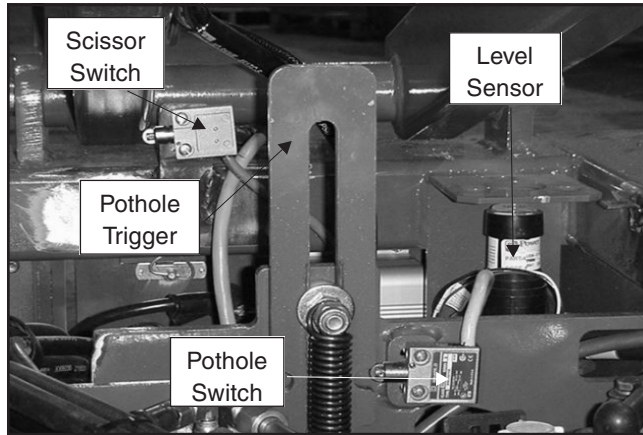

Figure 8.3—Switches and Sensor
3. Check voltage on wire 102 to scissor switch (figure 8.3). Is it 24 volts? If yes, go to 4. If no, inspect and/or replace wire.
3. Check voltage on wire 102 to pothole switch (figure 8.3). Is it 24 volts? If yes, go to 4. If no, inspect and/or replace wire.
4. Check voltage on wire 112 from pothole switch to level sensor (figure 8.3). Is it 24 volts? If yes, go to 5. If no, inspect and/or replace pothole switch.